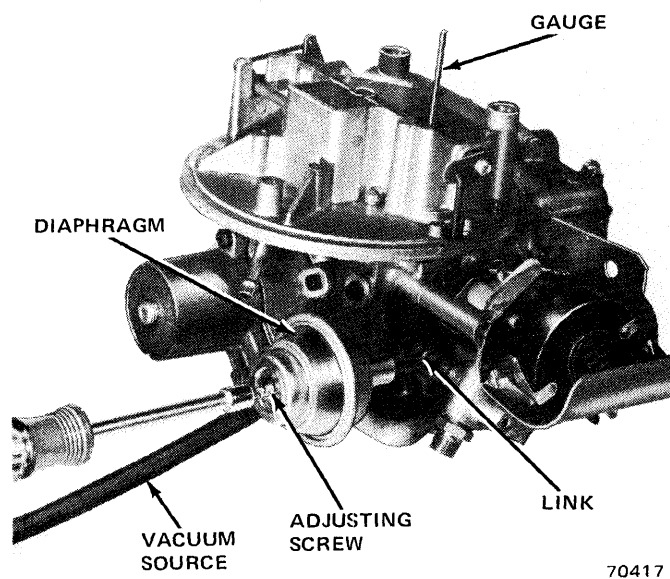

Fig. 4-107 Initial Choke Valve Clearance Adjustment
- (1) Loosen choke cover screws.
- (2) Open throttle and rotate choke cover until choke valve is held closed.
- (3) Close throttle. Fast idle speed screw should be on top step of cam.
- (4) Apply vacuum to hold choke diaphragm against setscrew. Do not press on links.
- (5) Measure clearance between lower edge of choke valve and air horn (fig. 4-107).
- (6) Adjust clearance by turning screw located at rear of diaphragm housing (fig. 4-107).
- (7) Adjust fast idle cam linkage.
- (8) Loosen choke cover screw and rotate cover to relieve tension on choke bimetallic coil. Set choke cover to specifications and tighten choke cover screws.